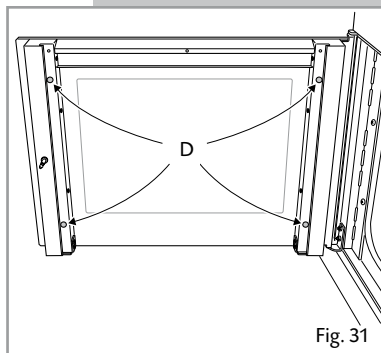

Fig. 31
- Check that the four rubber pads are in place (**D** in Fig. 31).